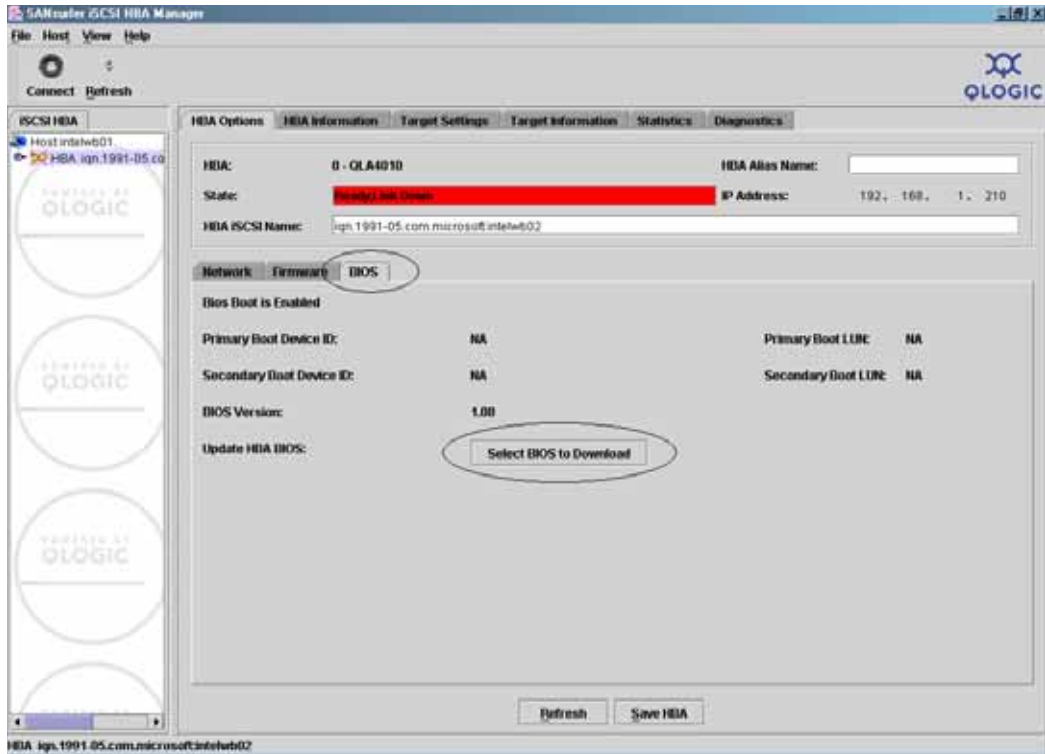

Figure 118 SANsurfer iSCSI HBA Manager, HBA Options, BIOS tab
- ◆ Boot BIOS for the iSCSI adapter can be loaded in a similar fashion. From the **SANsurfer iSCSI HBA Manager**, **HBA Option** dialog, click the **BIOS** tab, as shown in Figure 118.